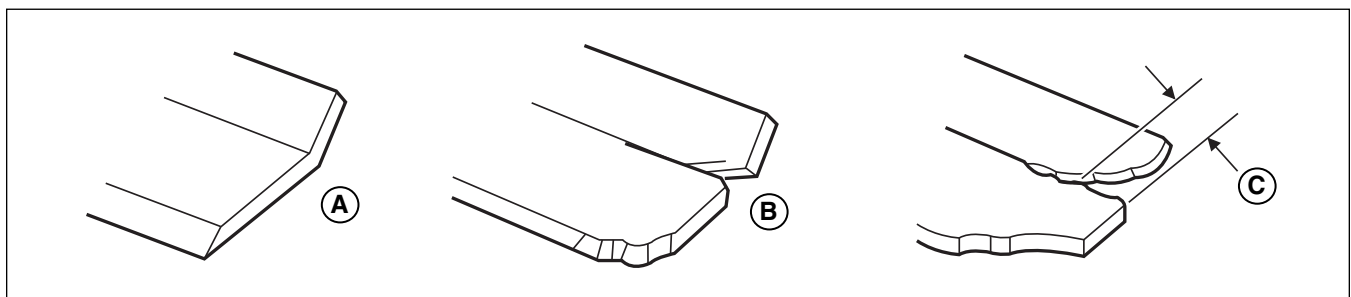

Figure 29. Inspecting the Mower Blade Air Lifts
- B.) The air lifts are excessively eroded (B & C, Figure 29) and the notch (C) is .25" (6,35 mm) deep or greater.